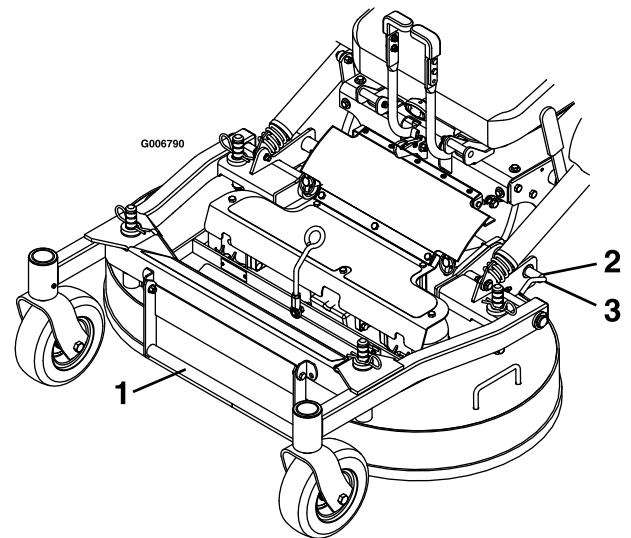

Figure 19
2. Release the mower-deck locking pins on each side (Figure 19).
2. Push the deck-locking pins inward and rotate them forward to securely lock the mower deck in the lowered position (Figure 19).